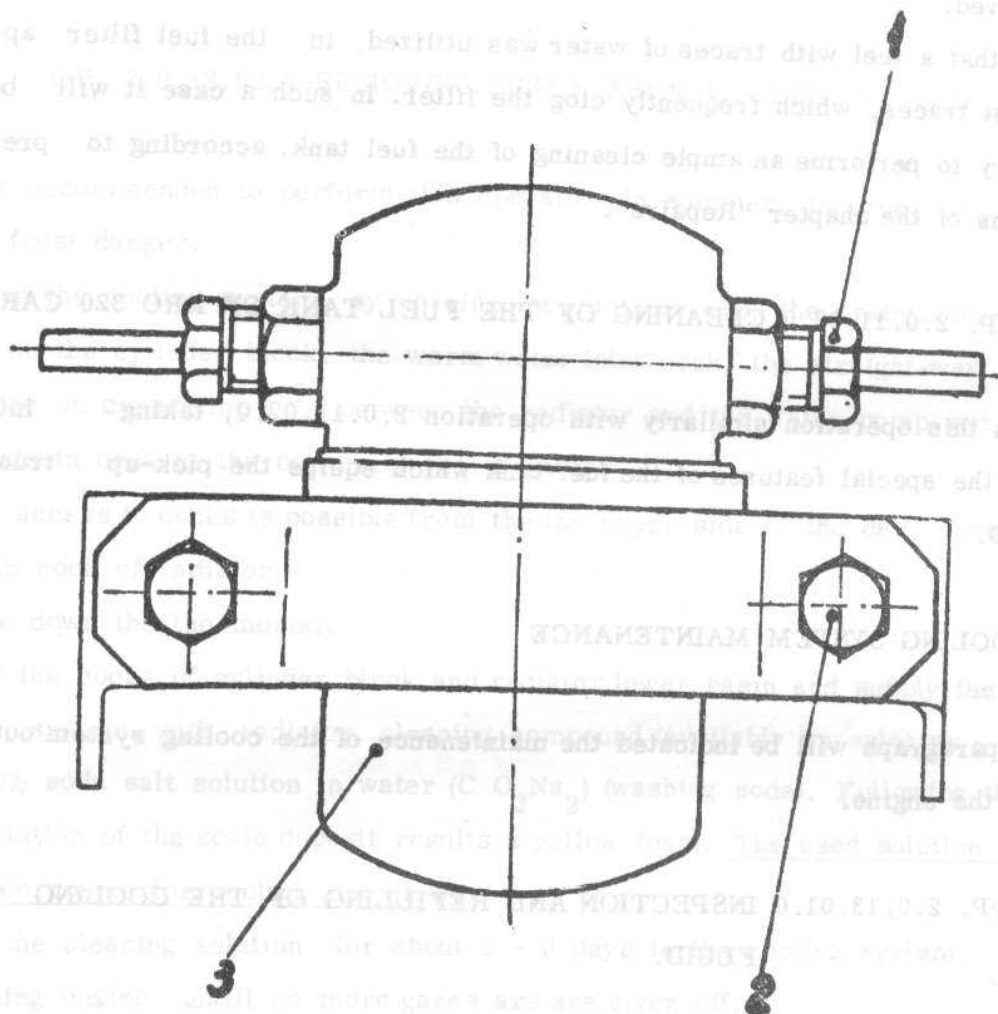

Fig. 2.54. 1. Fuel line connecting nut; 2. Bolt fastening fuel filter clamping blade; 3. Lower filter body.
- Unscrew fuel pipe connections (1) - see fig.2.54.
- Unscrew bolts (2), fastening fuel filter by means of a clamping plate.